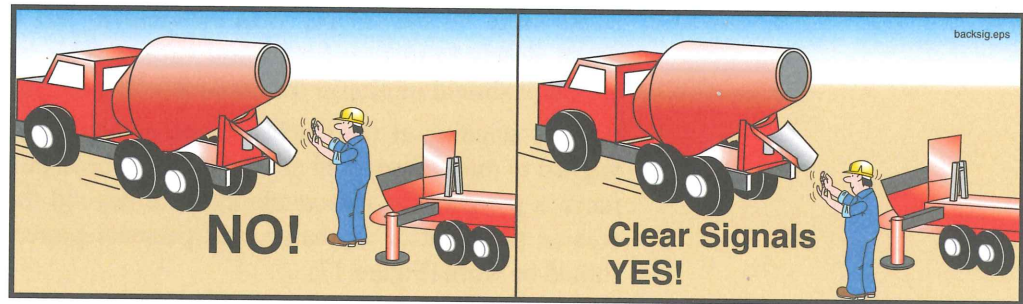

Figure 15
- 6.6 **⚠ WARNING** **Crushing hazard!** Never, ever position yourself between a ready mix truck and the pump! Stand off to the side, so the ready mix driver can see you at all times (Figure 15).
- 6.7 **⚠ WARNING** When backing in ready mix trucks, use clear and concise hand signals (Figure 15).